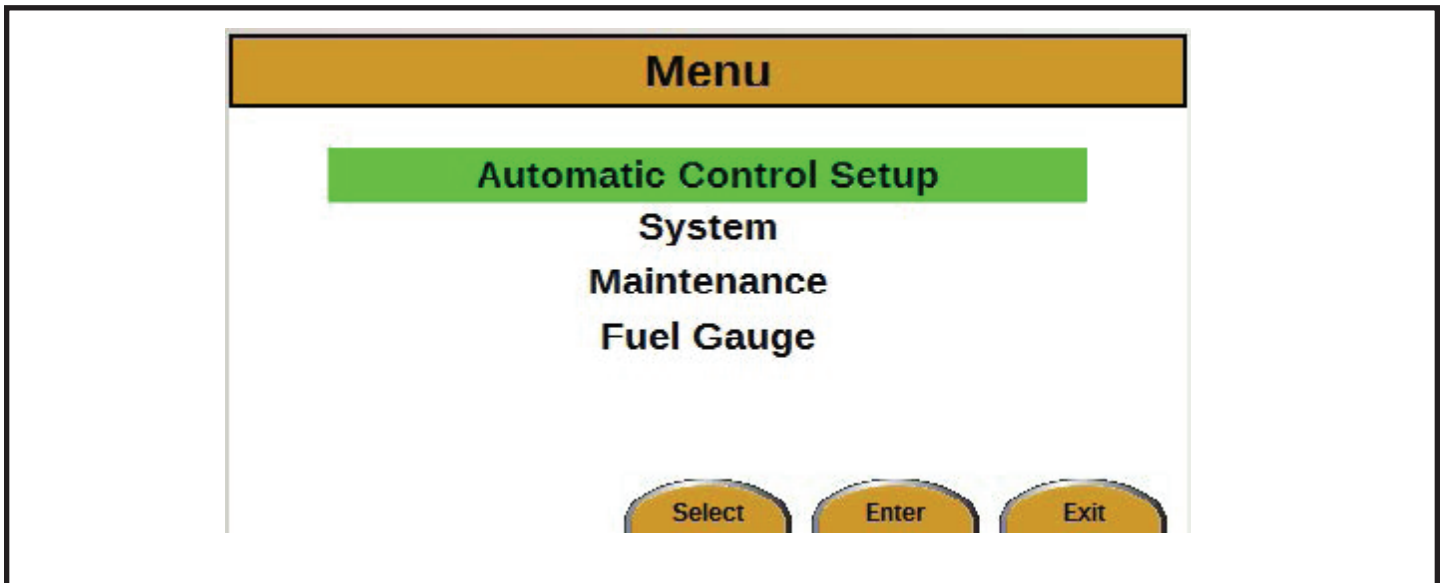

Figure 4
1. On the Fuel Hours screen, press the Menu button. The Menu screen will appear (see *Figure 4*).